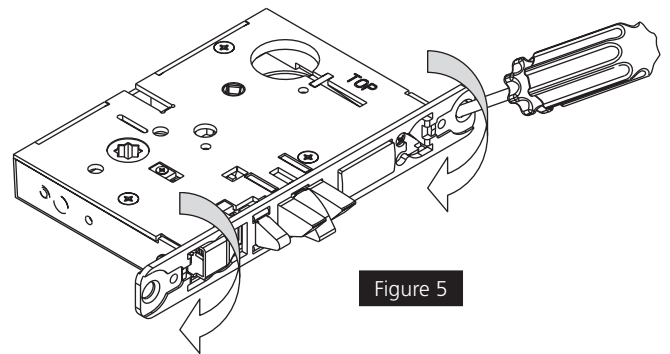

Figure 5
5. Rotate lock front to match level of door as shown (Figure 5)